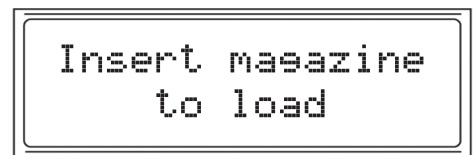

Fig. 31
- **Insert Magazine to Load:** If a magazine is not present or correctly inserted into the Magazine Well, the ASAP Loader will display “Insert magazine to load” (*Fig. 31*). Insert or re-insert the magazine, and ensure that it properly locks into the Magazine Well with an audible click.